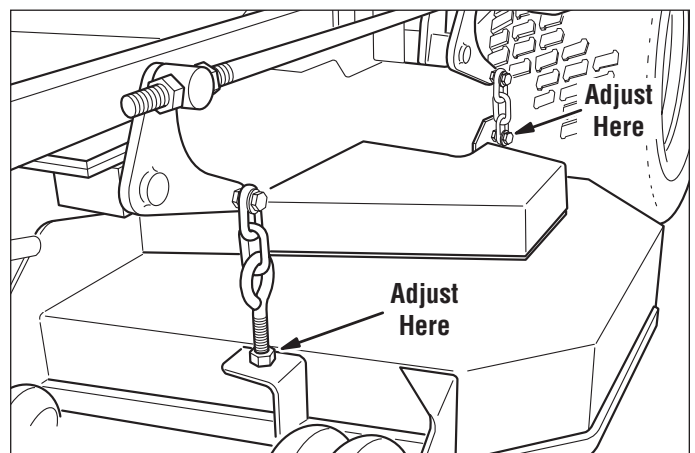

Figure 35. Hanger Chain Adjustment
7. Adjust the front eyebolts until the chains are tight and the deck is still resting on the 2 x 4's. Tighten jam nuts. See Figure 35.
8. Loosen the nuts and allow the rear of the deck to rest on the 2 x 4's and 1/4" spacers. Slide the chains in the slots until the chains are tight and tighten the nuts. See Figure 35.